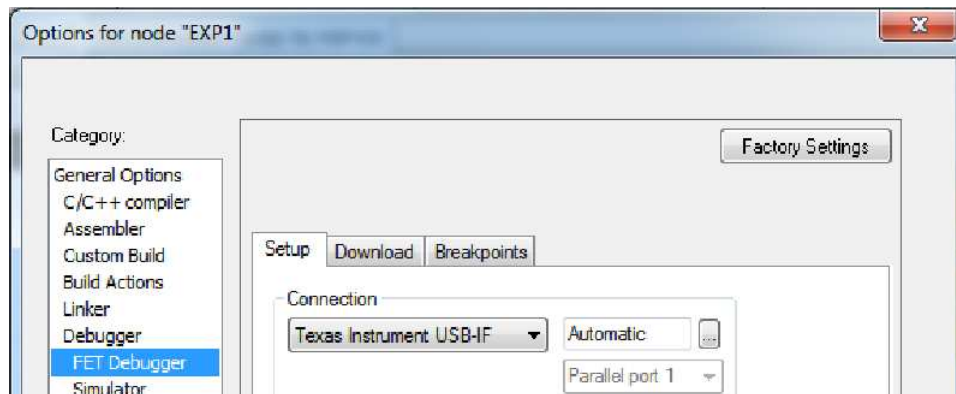

Figure 1.10: Options for EXP1.
7. Make sure that you have your project name selected in the project tree view on the left side of your screen. Click Project > Options .... Now, under Category: click Debugger > Setup and choose FET Debugger in the Driver dropdown menu. Depending on the options you chose when you installed your IDE you may or may not have the Driver dropdown menu. It is important that you make sure you have selected Texas Instrument USB-IF in the dropdown menu. The rest of the options are chosen for you. DO NOT click OK yet. See the illustration in Figure 1.10.